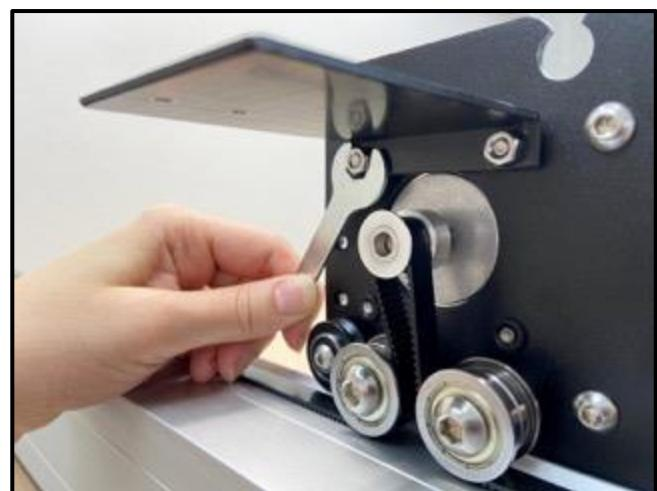

Figure 6-7
2. Use the 8mm wrench and two (2) M5 nuts to secure the head bracket to the two protruding M5x16mm socket head cap screws on the Y1-carriage above the Y1-motor pulley. See *Figure 6-7*.